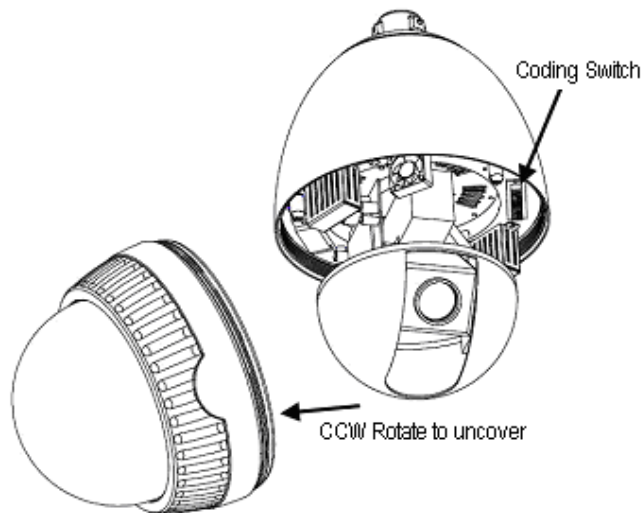

Figure 6
3. Rotate the vitreous cover CCW (counterclockwise) and take it out. (see Figure 6)
7. Fetch the signal cable, video cable and power wires from bracket. Fix the cover plate, tighten the knurled-screw (refer to Figure 6).
4. Referring to the table 2, set the camera protocol and baud rate by the coding switch as shown in figure 6. Check if the camera address is compatible with the address that you want; if not, set the camera to corresponding address as per table 1.